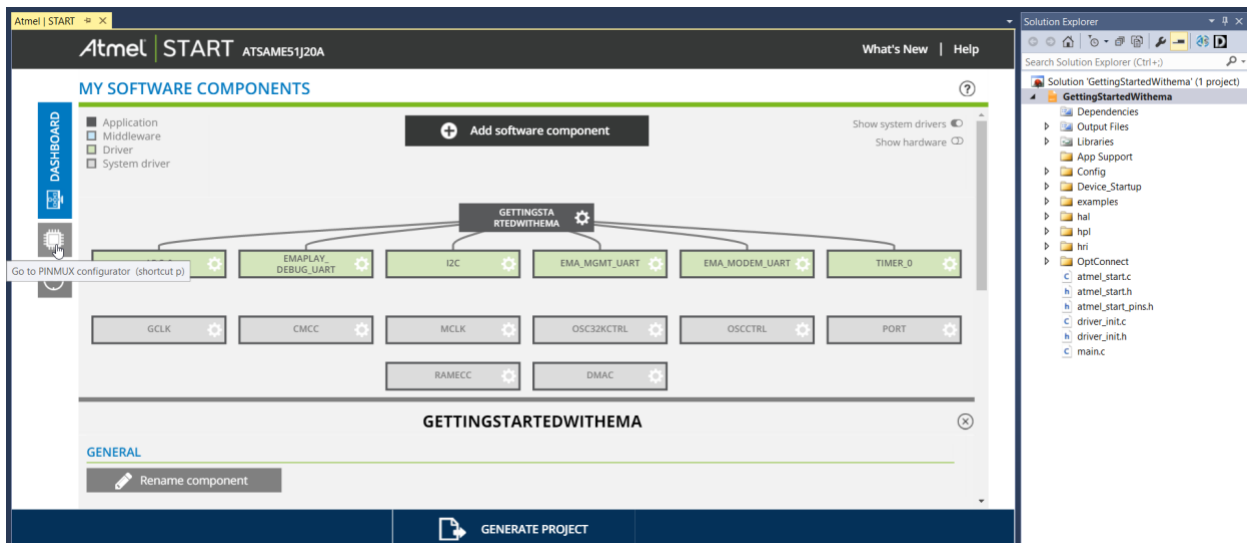

Figure 9
6. **Investigate the PINMUX Configurator in Atmel | Start:** On the left side of the screen, click on the button labeled “Go to PINMUX Configurator” as shown in *Figure 9*.